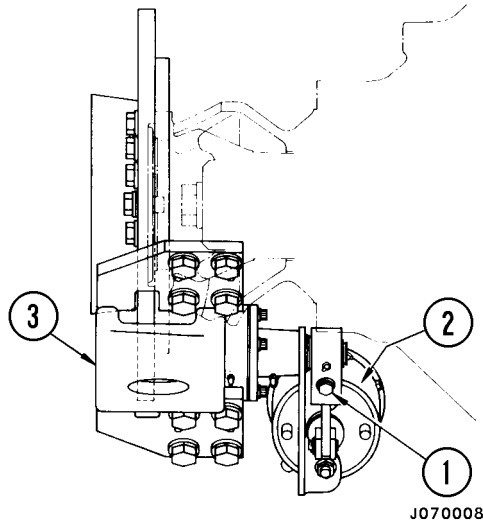
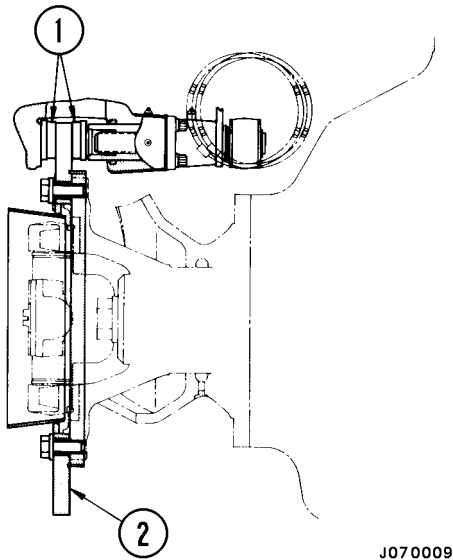
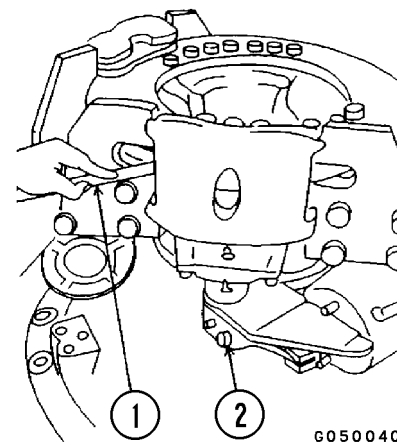

FIGURE 4-16. PARKING BRAKE ADJUSTMENT
FIGURE 4-17. PARKING BRAKE ADJUSTMENT
FIGURE 4-19. ADJUSTMENT CLEARANCE
1. Turn capscrew (1, Figure 4-16) clockwise and bring both pads (1, Figure 4-17) into contact with disc (2).
3. Turn capscrew (1, Figure 4-16) back from this position counterclockwise $360^\circ \pm 15^\circ$ and measure clearance of caliper pad with feeler gauge (1, Figure 4-19).